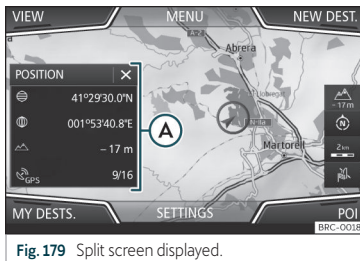

Fig. 179 Split screen displayed.
The split screen >>> Fig. 179 (A) may display any of the information described below: